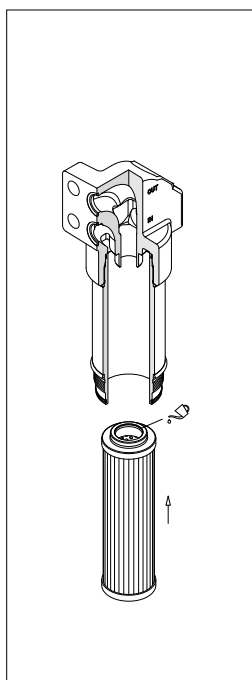

fig. 11
- (Fig. 11) Lubricate with the operating fluid the filter element O-ring, then fit the filter element on the tap. Pay attention not to damage the O-ring seal.